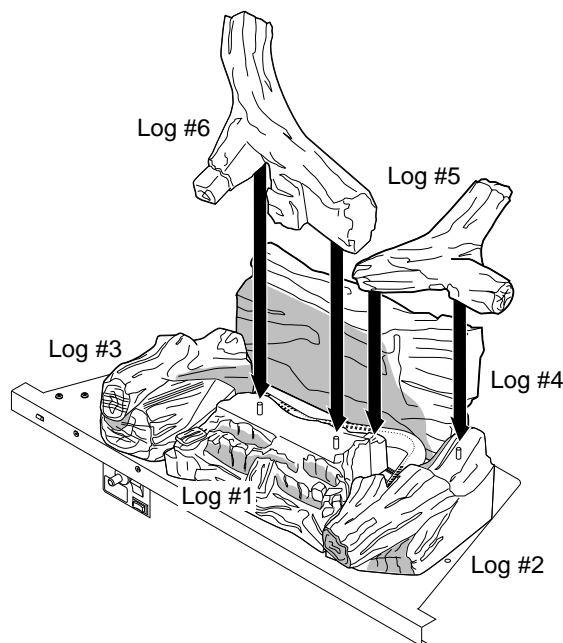

Figure 34 - Installing Log #5 and Log #6
- Locate hole on bottom of log #5 and place over pin on log #2. Log #5 will rest on back of log #1 (ember bed). See Figure 34.
- Place log #6 onto two pins on log #1 (ember bed) and rest back of log #6 on back log #4 (see Figure 34).